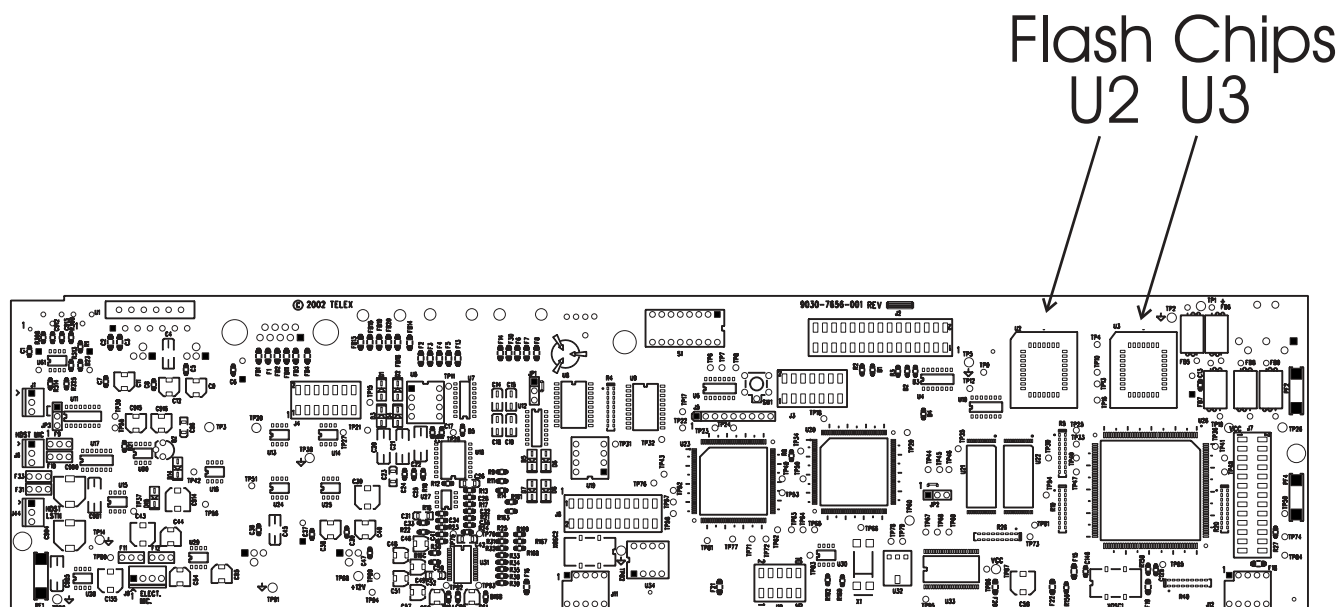

Figure 1. Flash Chip placement on the KP-32 motherboard.
The KP32, KP-32J , KP-632, and KP-832 must upgraded to 4MB flash chips that are programmed in the factory. Note, there are two chips for each model (see figure 1). Table 2 shows the respective part numbers for each type of keypanel.
3. Using a chip extractor, carefully remove and replace the flash chips located at U2 and U3 on the KP-32 Motherboard. See Figure 1.